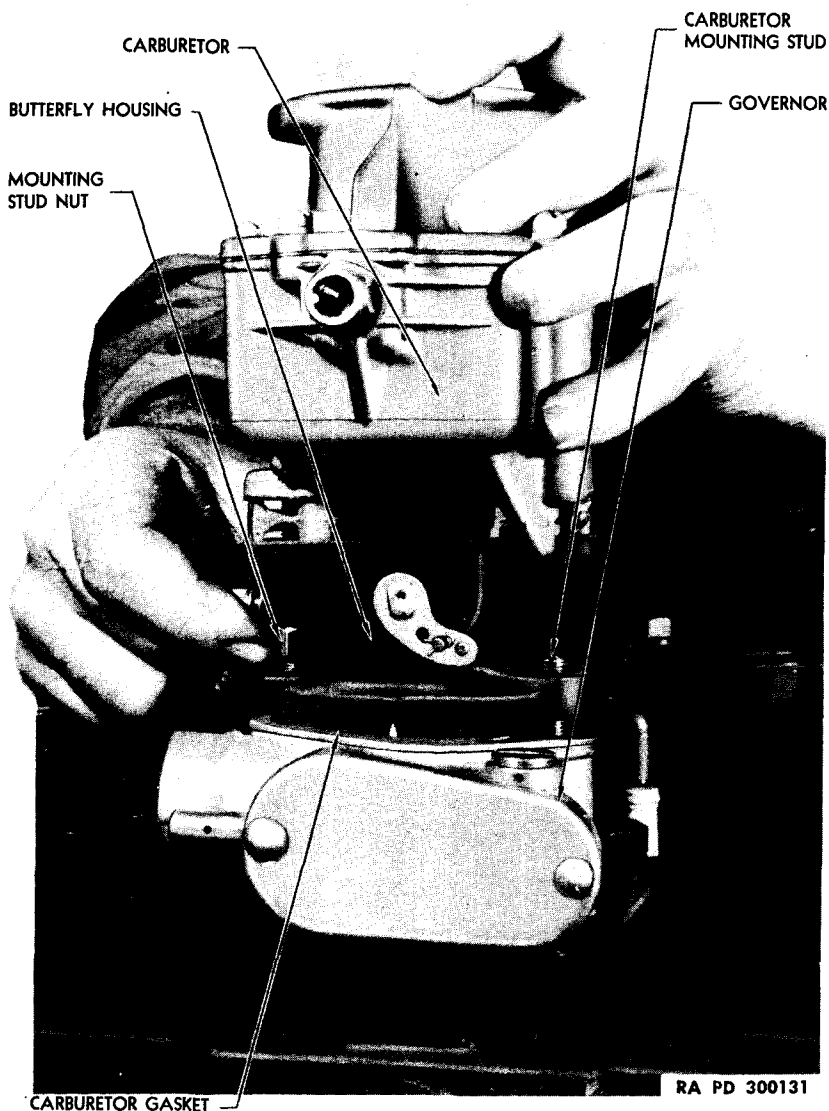

Figure 37—Removing Carburetor Assembly
c. Remove Carburetor. Remove air cleaner from carburetor (par. 75 a). Disconnect carburetor controls (par. 72). Disconnect fuel pump to carburetor line at carburetor. Loosen two stud nuts that hold carburetor to governor assembly. Remove front stud nut first, then while elevating carburetor assembly (fig. 37) remove the rear stud nut.
d. **Install Carburetor.** Place carburetor gasket in position on carburetor mounting studs and place carburetor assembly in position over gasket. While holding carburetor in elevated position (fig. 37)